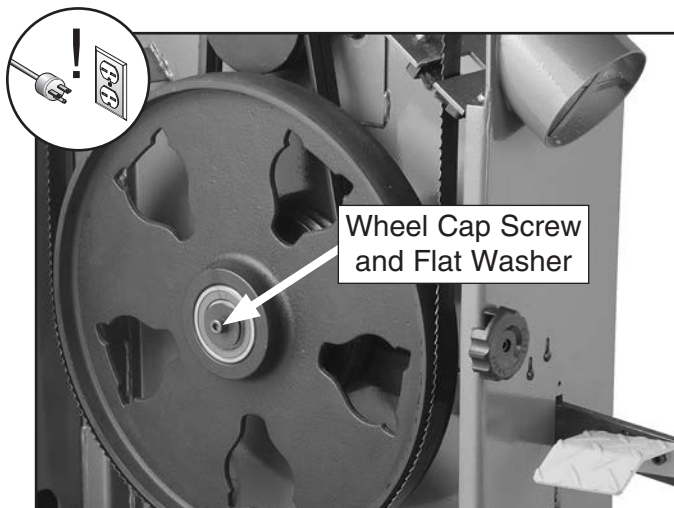

Figure 69. Wheel cap screw for removing the wheel.
5. Remove the wheel cap screw and flat washer shown in **Figure 69**, then slide the lower wheel out and set it on a flat surface.